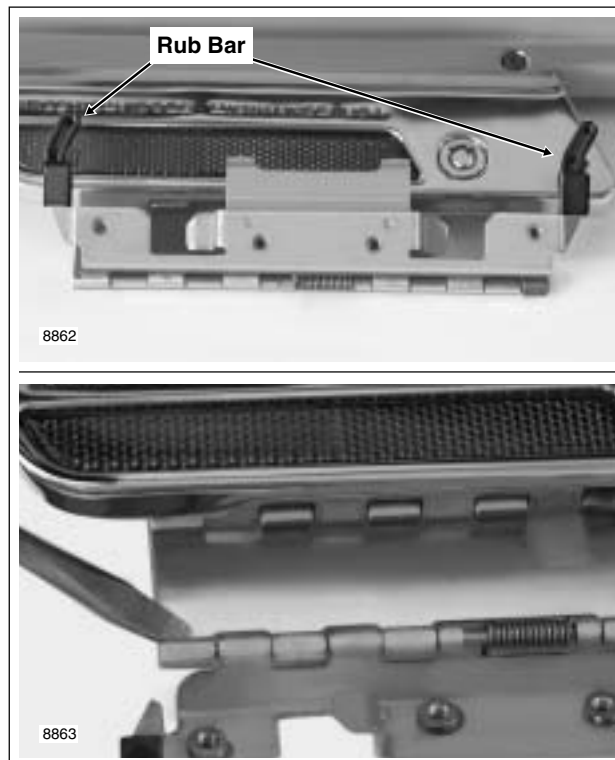

Figure 2-134. Lid Right Side Up With Latch on Near Side
8. Raise latch slightly and rotate hinge on inboard side so that it is topside with the two plastic rub bars pointed upward. See upper frame of Figure 2-134.
- Rotate rub bar section of hinge to expose hinge pin and spring. Using a flat tip screwdriver, carefully bend crimped end link outward. See lower frame of Figure 2-134.
- Reposition lid so that it is right side up with latch closest to you. As before, raise latch slightly and rotate hinge on inboard side so that it is topside with plastic rub bars pointing upward. Now rotate rub bar section of hinge to expose hinge pin and spring. See Figure 2-134.